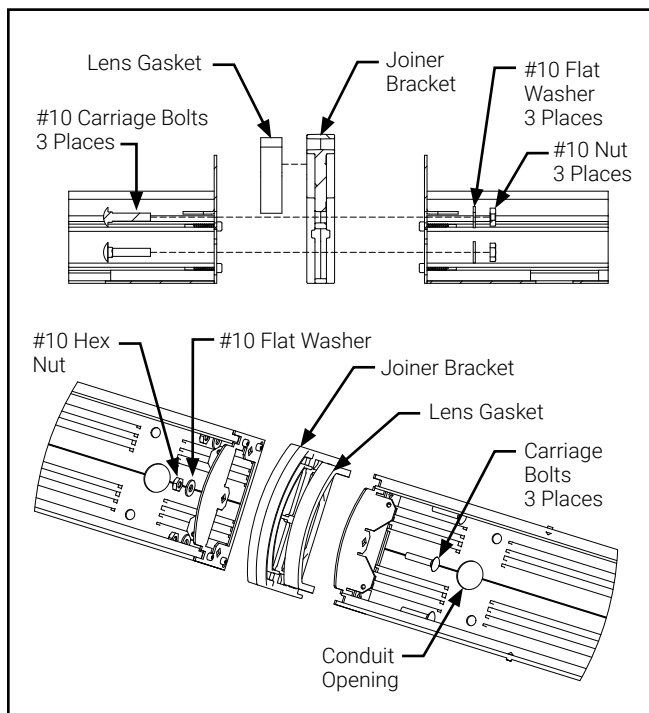

Figure 3.
3. Locate Joiner Bracket and bag of hardware in carton. Install Joiner Bracket in between first fixture and second fixture. Install 3 carriage bolts, washers and nuts as shown in Figure 3.